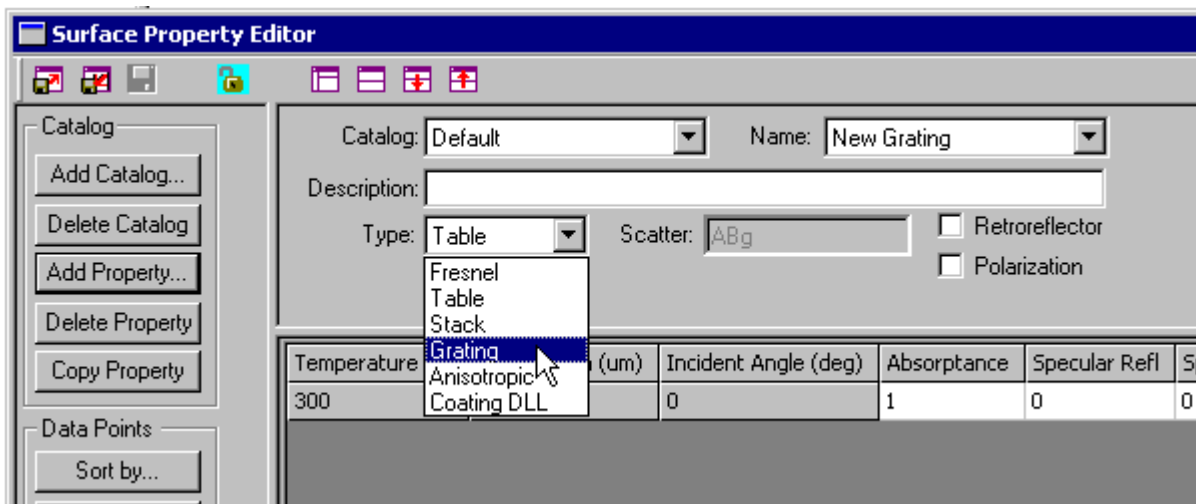

FIGURE 9.47 - Creating a surface property of type Grating.
2. From the Type drop-down list, choose Grating as shown in Figure 9.47.